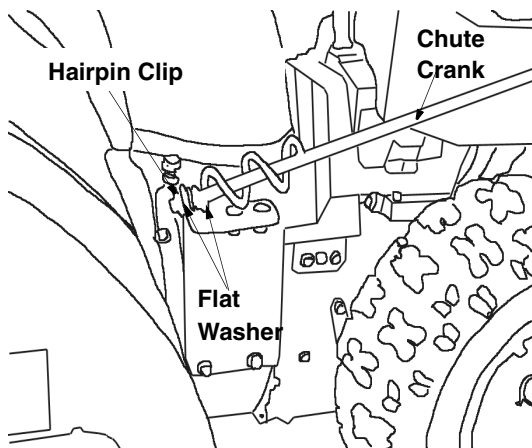

Figure 26
- Disconnect chute crank assembly at the discharge chute by removing the hairpin clip and the two flat washers. See Figure 26.